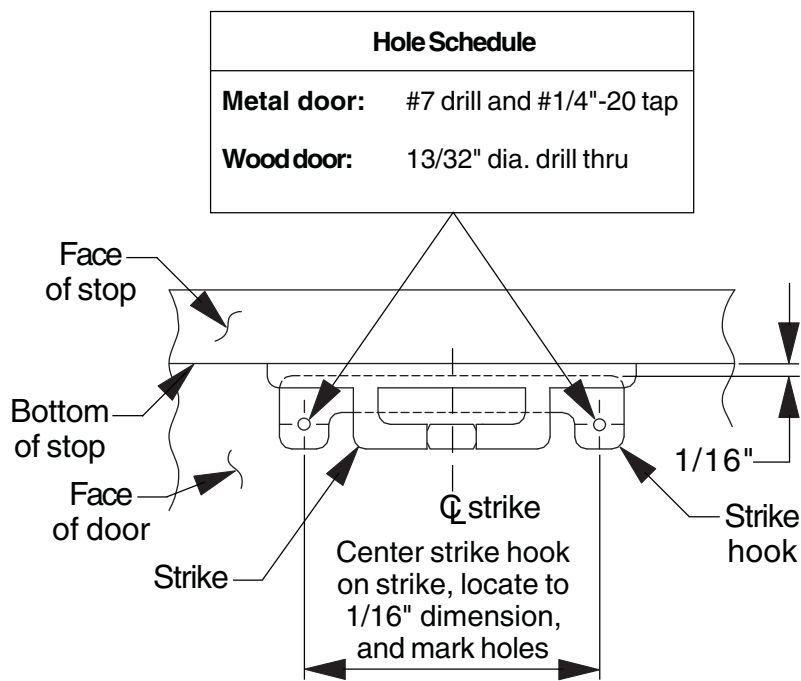
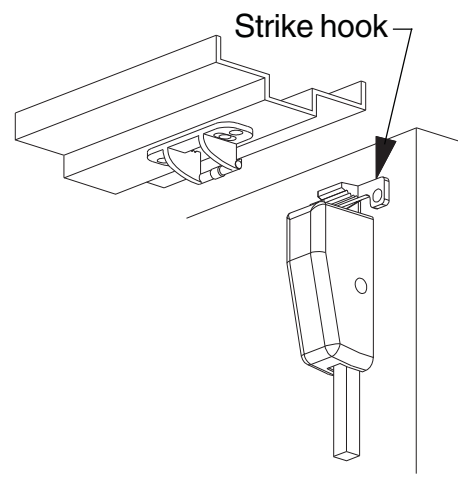

Figure 3-3
Figure 3-4
- 3.4. Prepare door for strike hook (see Figure 3-3) and install strike hook. Figure 3-4 shows relative positions of strike, strike hook, and top latch.